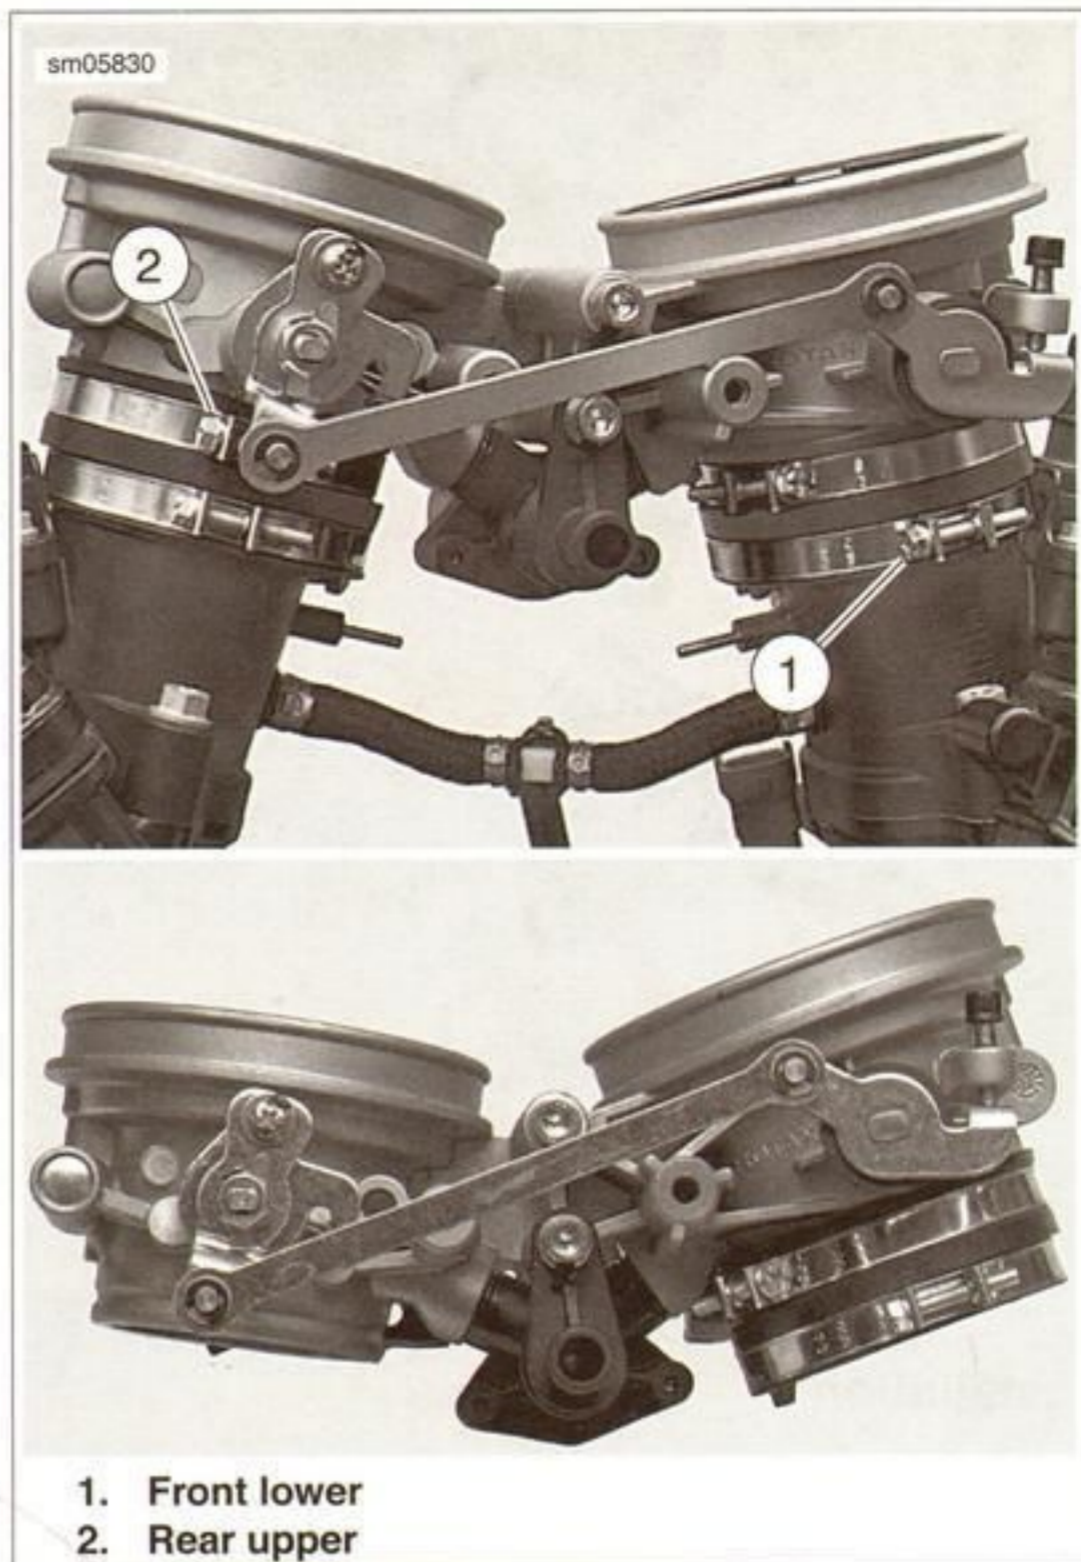

Figure 4-36. Loosen Hose Clamps to Remove Throttle Body (IAC hose removed)
7. Remove the barrels of the throttle control cables (2) from the throttle cam. See 4.4 THROTTLE CONTROL.
8. Remove the cables from the throttle cable bracket (3).
9. See Figure 4-36. Loosen the intake neck clamps:
- a. Loosen the lower front clamp (1).
- b. Loosen the upper rear clamp (2).